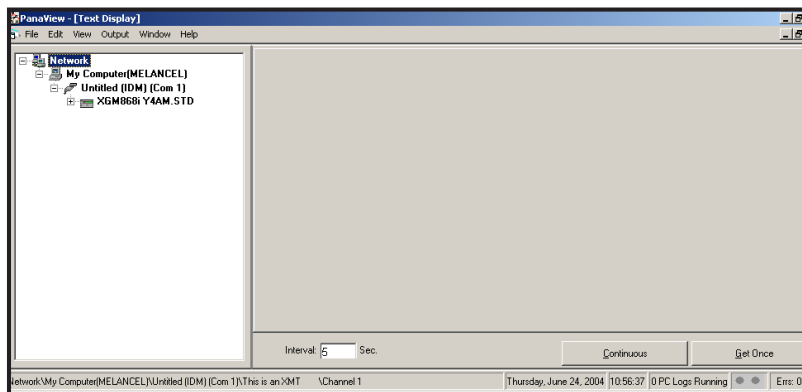

Figure 19: The Text Display Window
2. Using the *Window* menu, as described in the *PanaView User's Manual*, arrange the open windows in the desired format. For this discussion, Figure 19 shows the *Text Display* window in its maximized (full-screen) size.
5. Before actual data values can be displayed in the text pane, activate one of the following data collection modes (see Figure 19 on page 50):